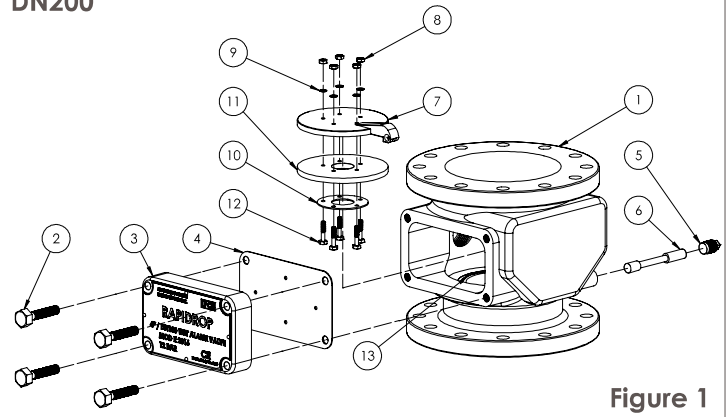

Figure 1
Maintenance (See Figure 1&2)
4. After the system is fully drained, remove the cover plate (3).
5. Remove the clapper shaft retaining plug(s) (5) and the clapper shaft (6).
6. Clean thoroughly removing any accumulated deposits. Inspect the clapper gasket (11).
7. If the clapper gasket (11) is worn or damaged, unscrew the clapper nut (8) and disassemble clapper components (7-12).
8. Replace damaged components with genuine replacement parts, and reassemble clapper as shown in Figure 1.
9. Inspect the clapper seat ring (13) inside the valve body for lodgement of dirt, bruising or scoring. Clean thoroughly if necessary.
10. A damaged clapper seat ring (13) can be carefully polished using lapping compound. If the damage is extensive then a complete new valve should be fitted.
11. After the inspection and replacement of parts, reinstall the clapper assembly (7-12) and fix it with the clapper shaft (6).
12. Lock the clapper shaft (6) with clapper shaft retaining plug(s) (5) and reinstall cover plate gasket (4) and cover plate (3).